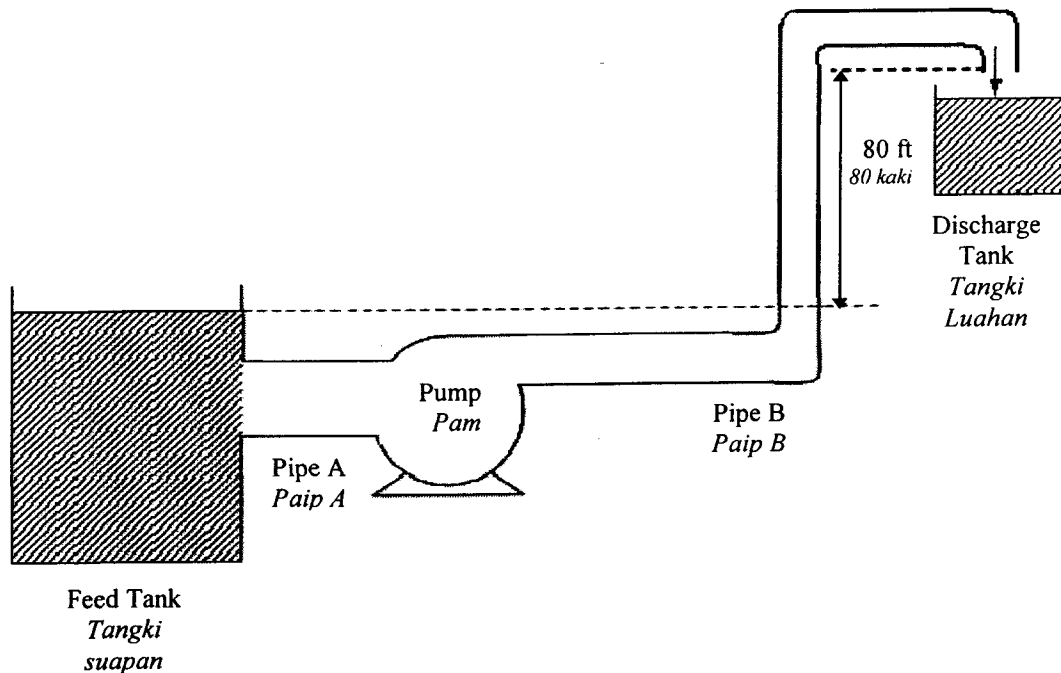

Figure Q. 7.
7. Figure Q.7 shows a pump pumping a fluid at a rate of $0.2 \text{ ft}^3/\text{s}$ from an open tank having a large cross-sectional area. The discharge flow goes to an open overhead tank as shown in the figure. If the friction loss in the piping system are $20 \text{ ft}\cdot\text{lb}_f/\text{lb}_m$ and the efficiency of the pump is 70%, calculate